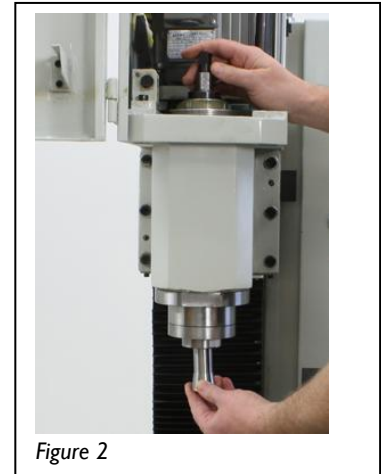

Figure 2
- a) Insert the included draw bar (can be found in the box nailed to the shipping pallet), and the **R8** collet that comes with the moving kit. These will screw into each other (do not tighten). See Fig. 2.